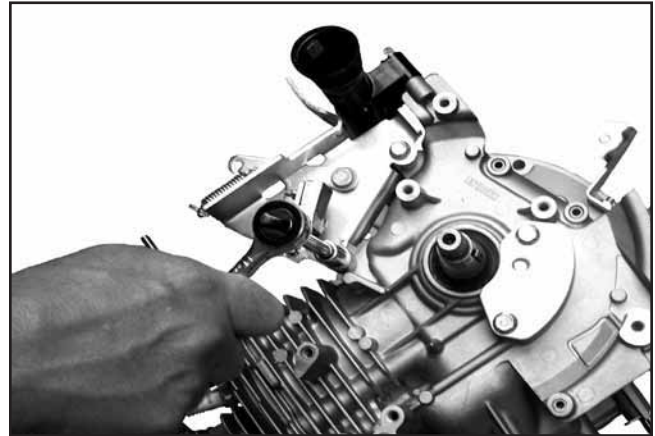

Figure 10-25. Installing Flywheel Brake Assembly.
2. Torque them to **9.5 N·m (84 in. lb.)**. See Figure 10-25.